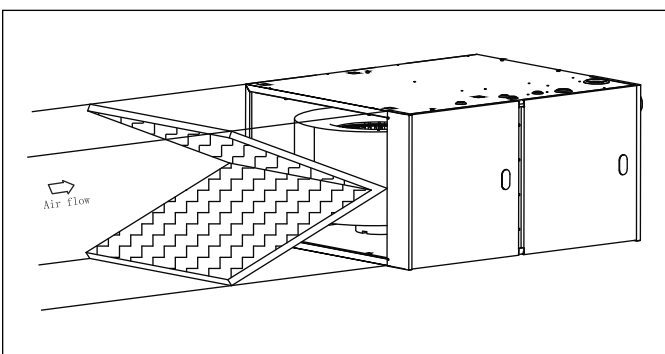

Figure 19
- ▶ In this installation, hoses connecting between ports of overflow protection pressure switch (overflow switch) and pressure tabs on the condensate collector box **MUST** be switched. The overflow switch has two ports, which is different from two other regular pressure switches that have only one port. Make sure that black port (positive) is connected to the lower position tap on condensate collector box and gray port (negative) to higher tap of condensate box. Connecting incorrectly will result in failure to protect condensate overflow. See Fig. 19.
- ▶ If disposable filters are used, air passage through filters should be increased to twice the size of original air opening by using a transition duct or using two filters in V shape (see Fig. 19) in normal duct size.